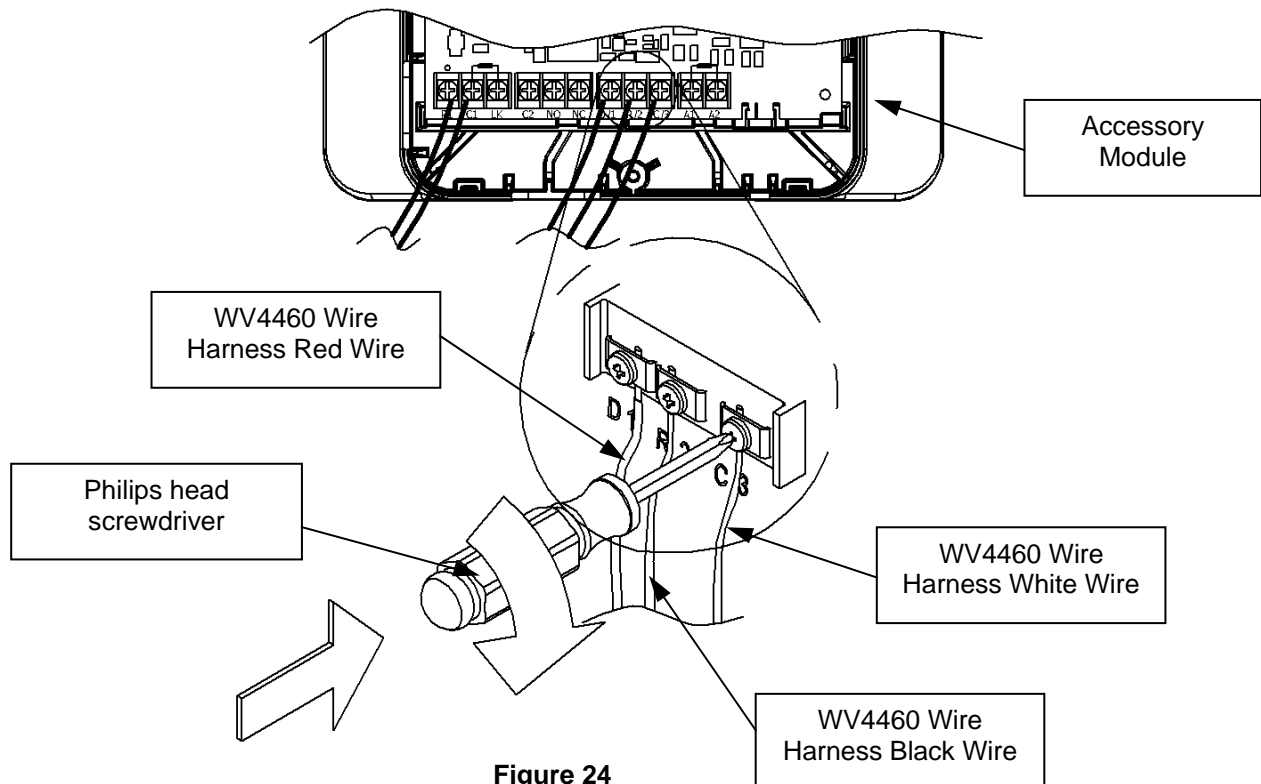

Figure 24
Step 24: Tighten the screw labeled "C/3," as shown in Figure 24. Proceed to Step 26 when finished.